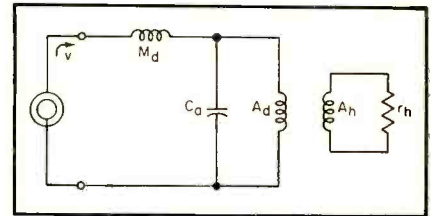
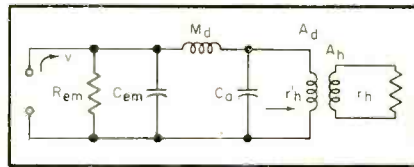

Fig. 8. Mechanical circuit of high-frequency speaker.
Fig. 9. Conversion of Fig. 8 circuit to pi-section equivalent.
The mechanical circuit has been analyzed many times in the past; it is given in Fig. 8. The resistance r_h is that of the throat of the horn, and is equal to the area of the throat in sq. cm. multiplied by 41.4 mech. ohms, which is the radiation resistance of air per sq. cm. A_d is the area of the diaphragm; in conjunction with A_h it forms a kind of hydraulic press which is the mechanical counterpart of an electrical transformer. The step-down ratio is A_d to A_h ; conversely r_h is reflected to the diaphragm as an equivalent resistance r'_h such that
From Fig. 8 the loudspeaker unit is recognized as forming an L-section low-pass filter. For proper transmission up to the cut-off frequency, it is necessary that
Figure 5 and Eq. (30) show how these appear in the mechanical circuit. The mechanical impedance Z_m is in this case illustrated by Fig. 8, so that finally in Fig. 9 is given the complete mechanical circuit including the equivalent electrical circuit parameters.
However, in order to convert the L-section mechanical low-pass filter of Fig. 8 into the π -section low-pass filter of Fig. 9, it is necessary that
The interested experimenter can calculate the actual response of the network shown in Fig. 9 on the basis that it is not a truly terminated low-pass filter section, since a resistance such as r'_h is but a nominal match over the pass